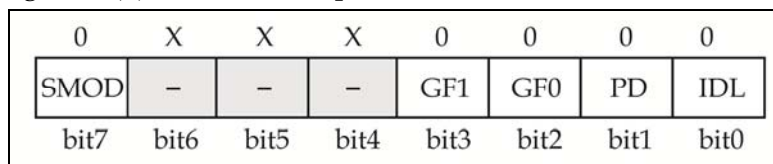

Fig. 1.8.4(b)
6. The fig. 1.8.4(b) shows the bit patterns for PCON SFR.